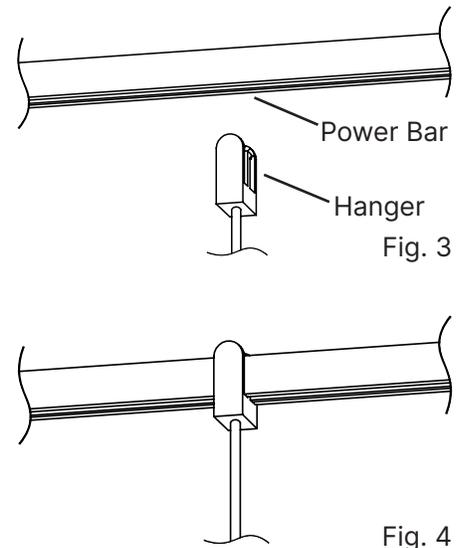

Fig. 4
3. Align **Hanger** with **Power Bar** (Fig. 3) and press down firmly on the top of the Power Bar, while pressing up on the bottom of the Hanger, until the Power Bar clicks into place (Fig. 4).